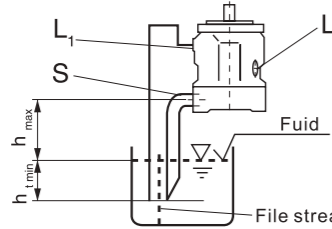

fig. 2
- b) If the minimum fluid level lies under the pump flange area then: ports L₁ and possibly S have to be piped as shown in fig. 2. Port L closed, as stated in section 1.2.1
Fill the pump casing with the pump lying horizontal before installation. (See fig.2)